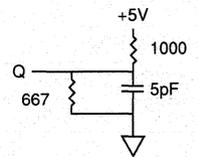

Fig. 2 OUTPUT LOAD EQUIVALENT
6. tHZCS, tHZOE, and tHZWE are specified with CL = 5pF as in Fig. 2. Transition is measured ± 500mV from steady state voltage.